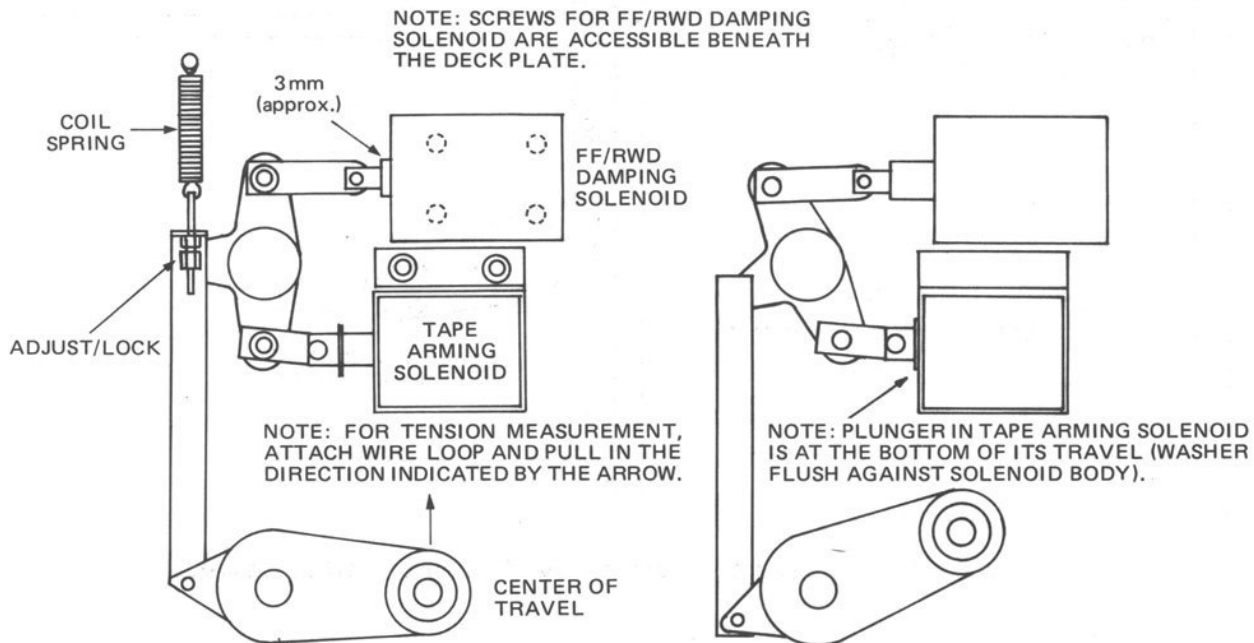

Figure 5-4. Tape arming and fast forward/rewind solenoid adjustments
3. Loosen the tape arming solenoid (Fig. 5-4). So the next adjustment can be made properly.
5.5 TAPE ARMING SOLENOIDS (Ref. to Fig. 5-4)
3. Inspect the plunger in the damping solenoid. The plunger will protrude from the solenoid body toward the linkage. About 3 mm of the plunger should be visible between the body and the point where the plunger diameter is reduced for mating with the linkage (Refer to Figure 5-4). If necessary, loosen the solenoid mounting screws and adjust its position. Be sure to average this measurement, due to possible linkage play.
5.7 SWING ARM TENSION (Ref. to Fig. 5-4)
2. Attach a spring scale to the swing arm post, using a loop of wire, as shown in Figure 5-4.